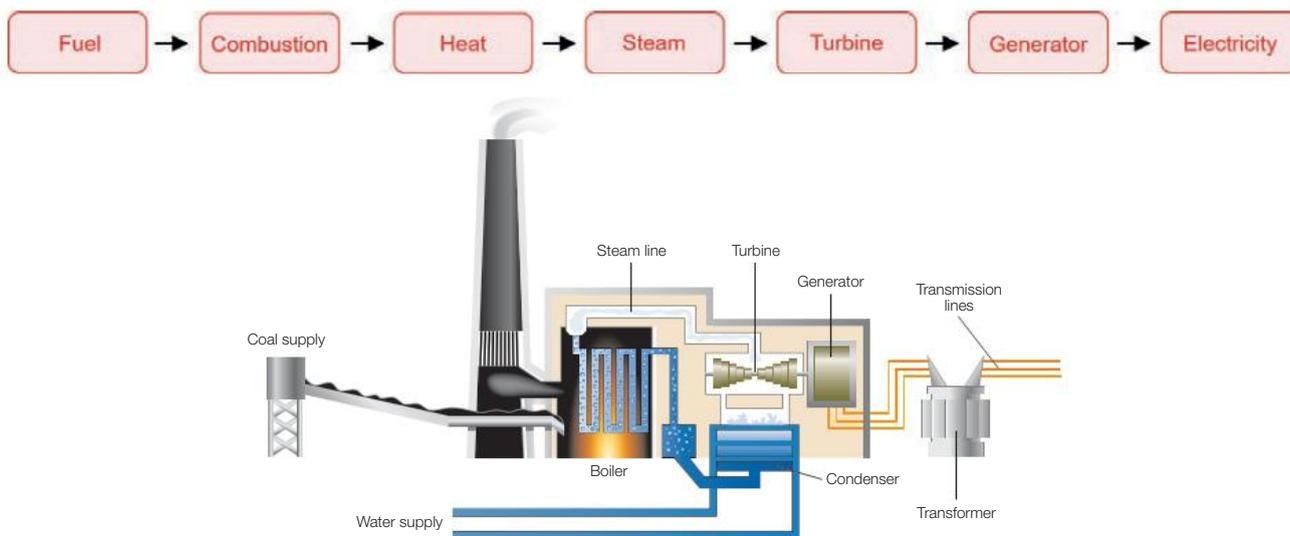

Figure 4.1.8: Conversion of coal to electricity.
**Steam turbines** are used to generate electricity. Over 90% of Australia's electricity production currently comes from combustion of coal and natural gas. These fossil fuels undergo combustion, heating water to produce high pressure steam to drive turbines. The turbine is linked to a generator to produce electricity (Figure 4.1.8).